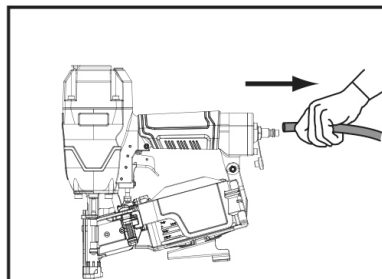
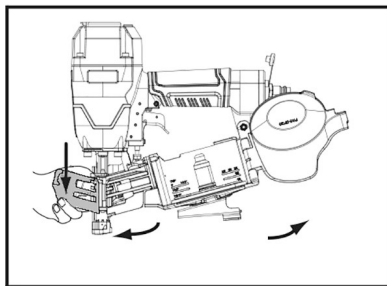

fig. 2
fig. 3
1. Débranchez l'alimentation d'air de l'outil de l'entrée d'air (F) (fig. 2). Évacuez toute pression résiduelle.
2. Place the tool down on its side with the magazine release latch (H) facing upwards.
4. Continue to hold the button down and swing the nail guide cover outward. Open the magazine cover (#92) open to reveal the nail compartment (Fig. 3).